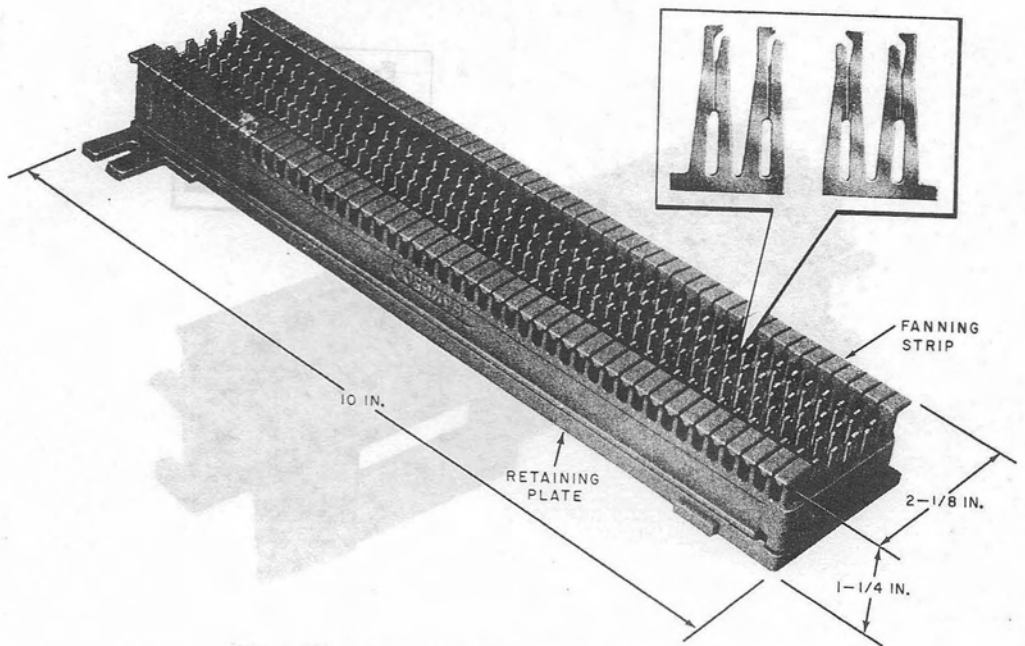
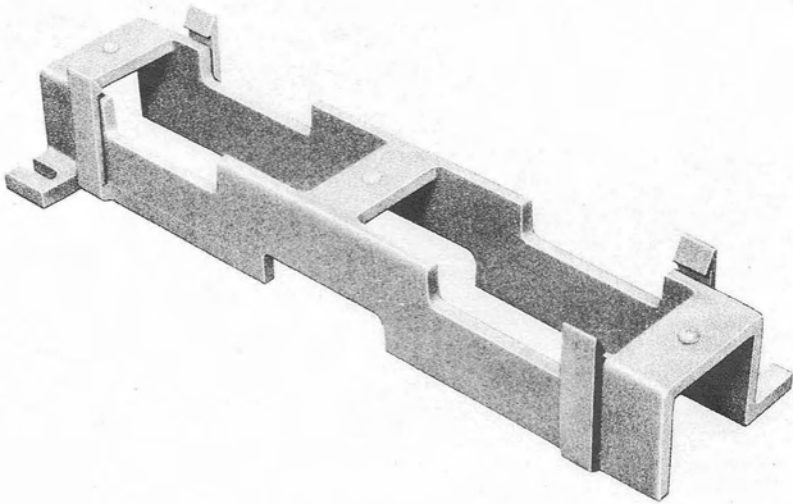
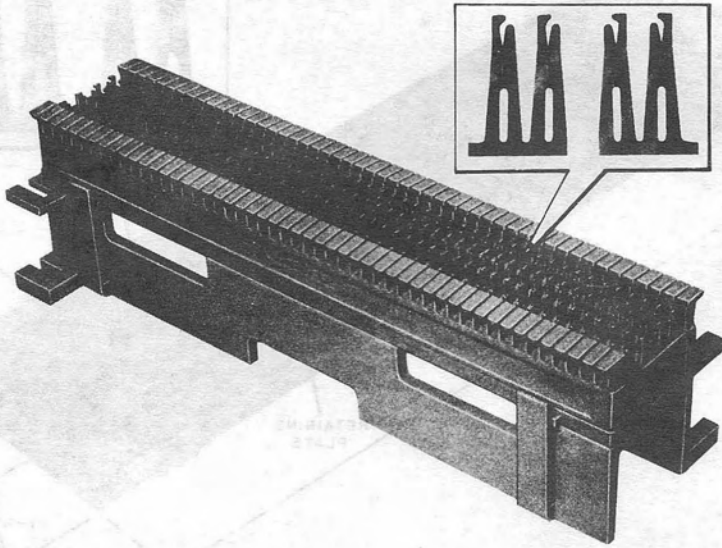
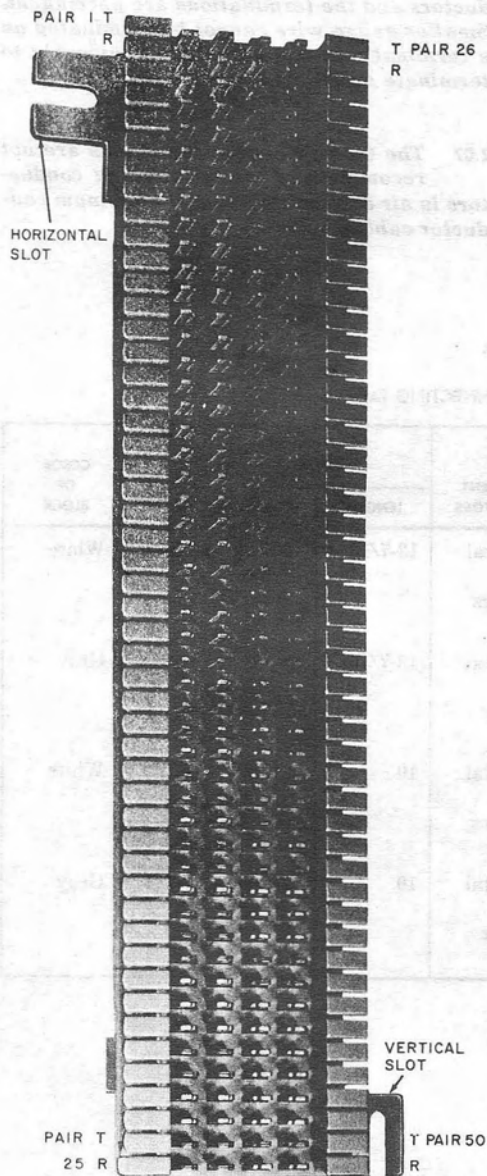

Fig. 3—66M1-50 Connecting Block
Fig. 4—89B Bracket
Fig. 5—66M1-50 Connecting Block Mounted on 89B Bracket
Fig. 6—66M1-50 Connecting Block—Numbering Procedure
2.03 The 66M1-50 connecting block (Fig. 3) consists of 50 horizontal rows of quick-clip connectors inserted in a fire-retardant molded plastic block and held in place by a plastic retaining plate. Each horizontal row contains two double quick-clip connectors. The 89B bracket (Fig. 4) is used for mounting the connecting block as shown in Fig. 5. The mounting position and numbering procedure is shown in Fig. 6. The vertical slot of the connecting block must always be located at the lower right corner to prevent backplate from releasing during the terminating (punch down) operation.